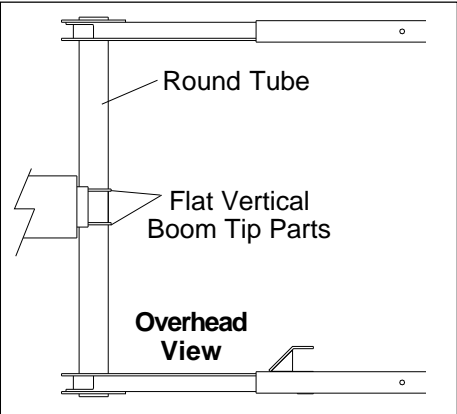

Figure 1 — Older Boom Tip Design
3. Look at the boom tip to see if it looks like the boom tip shown on Figure 1 or Figure 2.
4.If the boom tip design looks like Figure 1, continue to Step 5. If the boom tip looks like Figure 2, the inspection is completed and continue to Step 7.